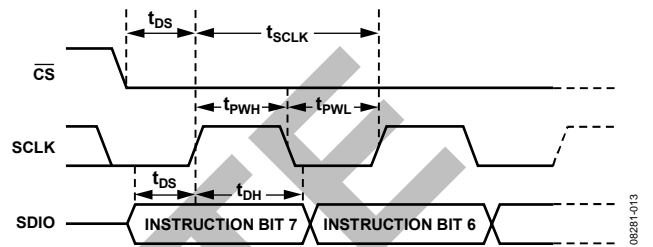

Figure 20. Timing Diagram for Serial Port Register Write
2. 4x interpolation: It is accomplished using HB1 and HB2 (Register 0x00F). Note that it is not possible to use HB3 when in 4x interpolation mode. Figure 20 shows the frequency response for this case. The usable bandwidth is $0.2 \times F_{dac}$ or $0.8 \times F_{data}$.